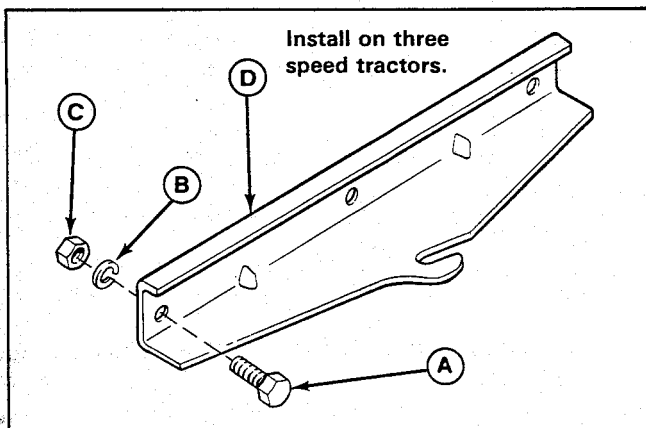

Figure 29.
2. On tractors with three forward speeds and 23" dia. rear tires, install support (D, figure 29) with three 3/8-16 x 1 capscrews, 3/8 lockwashers and nuts.